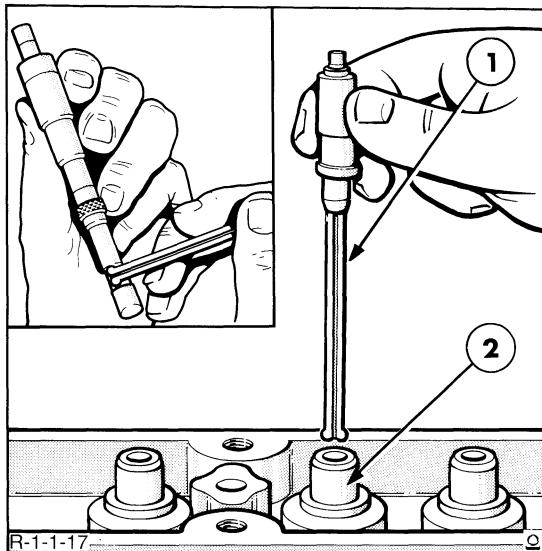

Figure 17
1. Using a telescopic gauge and micrometer, measure the valve to guide clearance, Figure 17. If the clearance exceeds the specified limits, see "Specifications" – Chapter 3, ream the valve guide to fit the next oversize valve.